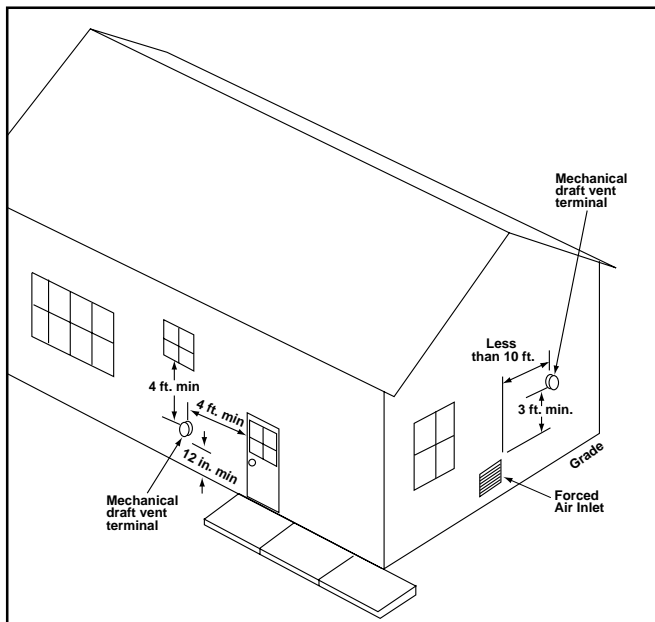

Figure 15. Vent Termination Clearances
The vent termination tee must be installed with the following minimum clearances. (See Figure 15.)
3. The vent termination shall be a minimum of 3 ft. above any forced air inlet within 10 ft. (See Figure 15.)
Line Voltage Wiring (See Figure 15)